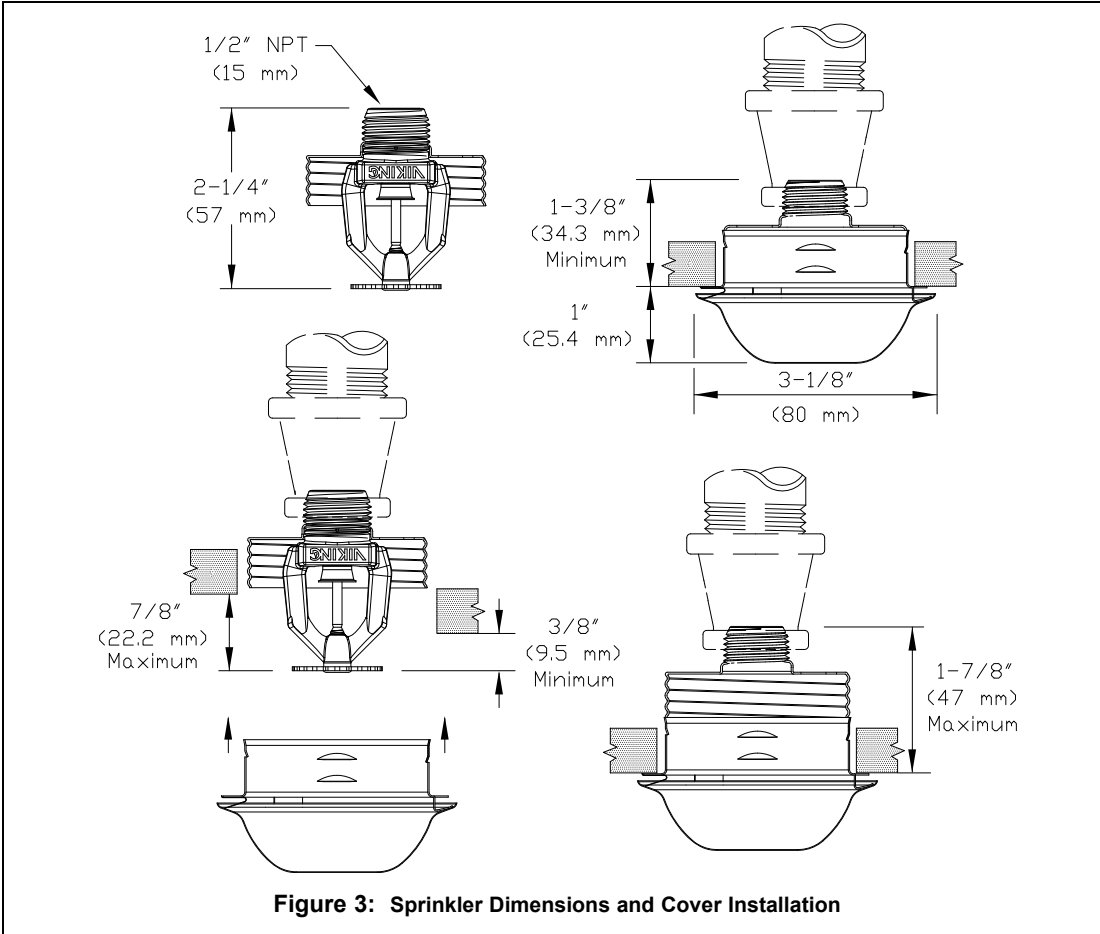

Figure 3: Sprinkler Dimensions and Cover Installation
- **DEFLECTOR POSITION:** Install Residential Concealed Pendent Sprinkler VK468 with the deflector 3/8” (9.5 mm) to 7/8” (22.2 mm) below the ceiling. Refer to Figure 3.